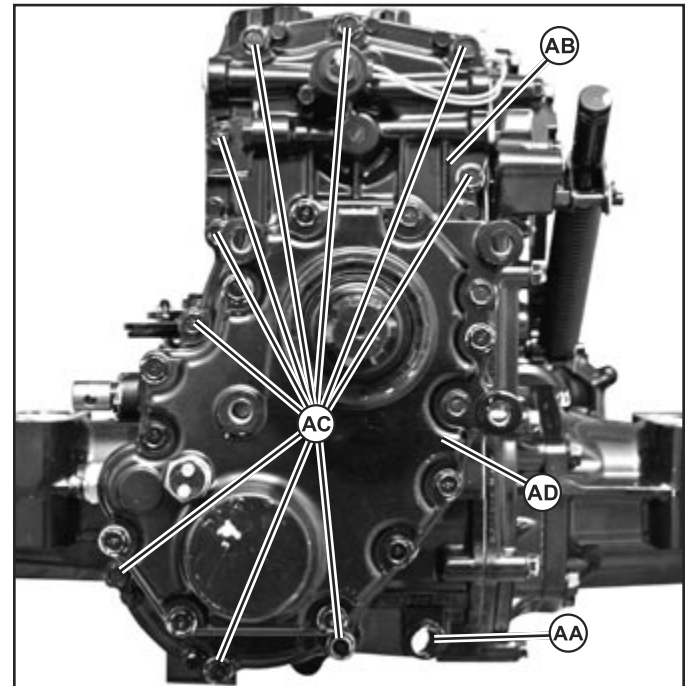

Fig. 21, PTO Drive Train (Mid and Rear PTO) Removal
1. Remove plug to drain oil from transaxle (AA). (Fig. 21)
2. Remove rear PTO (AD). (See "Rear PTO Removal and Installation" on page 14.)
3. Remove (9) cap screws (AC) to remove rear cover (AB). (Fig. 21)